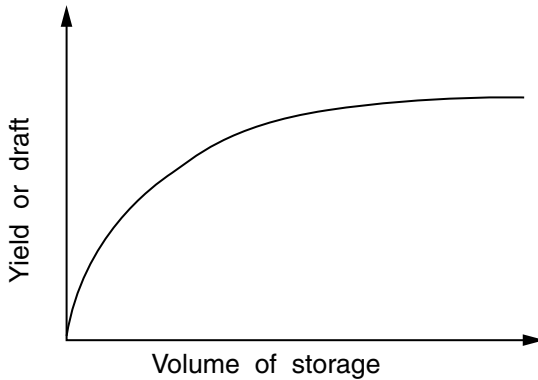

FIGURE S-13 Storage–yield relation.
**Storage–yield relationship** A procedure (equation, graph, etc.) used to determine storage requirements for water supply or other purposes; based on inflows and drafts or outflows. It can also be used to determine reservoir yield. *See* Figure S-13; mass curve.
**Storativity** Same as **storage coefficient** (2).